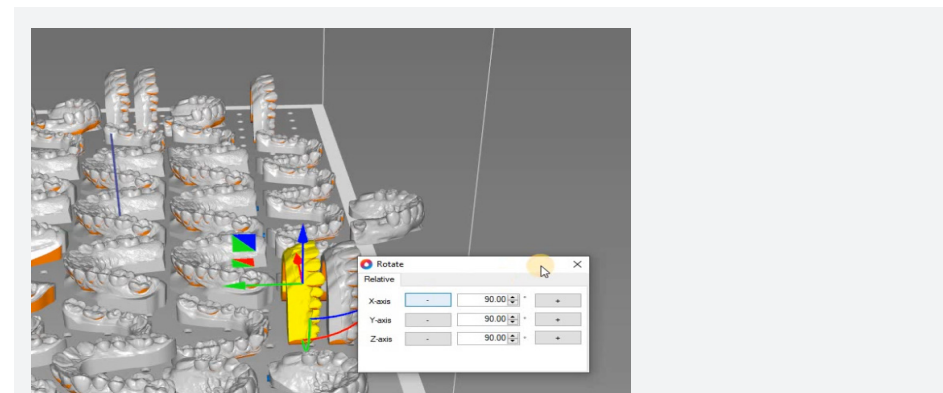
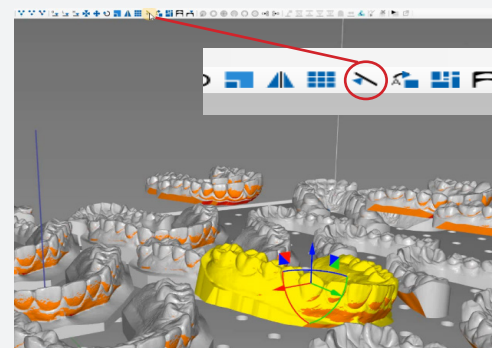
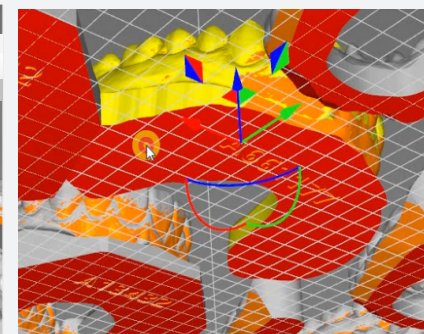

Figure 27
Figure 28
Figure 29
- If your models have not been imported flat to the build plate you will need to manually rotate them. In 'Transform' click 'Add Rotation' and adjust either the x or y axes (figure 27) and close the 'Rotate' window.
- In 'Transform' click 'Orient to face' (figure 28), add move your cursor to the underside of the platform and click on it and the model will now be flat on the platform (figure 29). Repeat this process for each model (figure 27, 28 & 29).